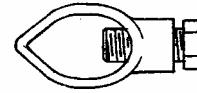

Figure 5 – Clamp for 1/2-inch thick rod
6) Replacement ground rod clamps, NSN 5975-01-034-8882, can be obtained for the 8-foot long, 1/2-inch thick ground rod (see figure 5). Note that these clamps cannot be used with the thicker, 6-foot ground rod.